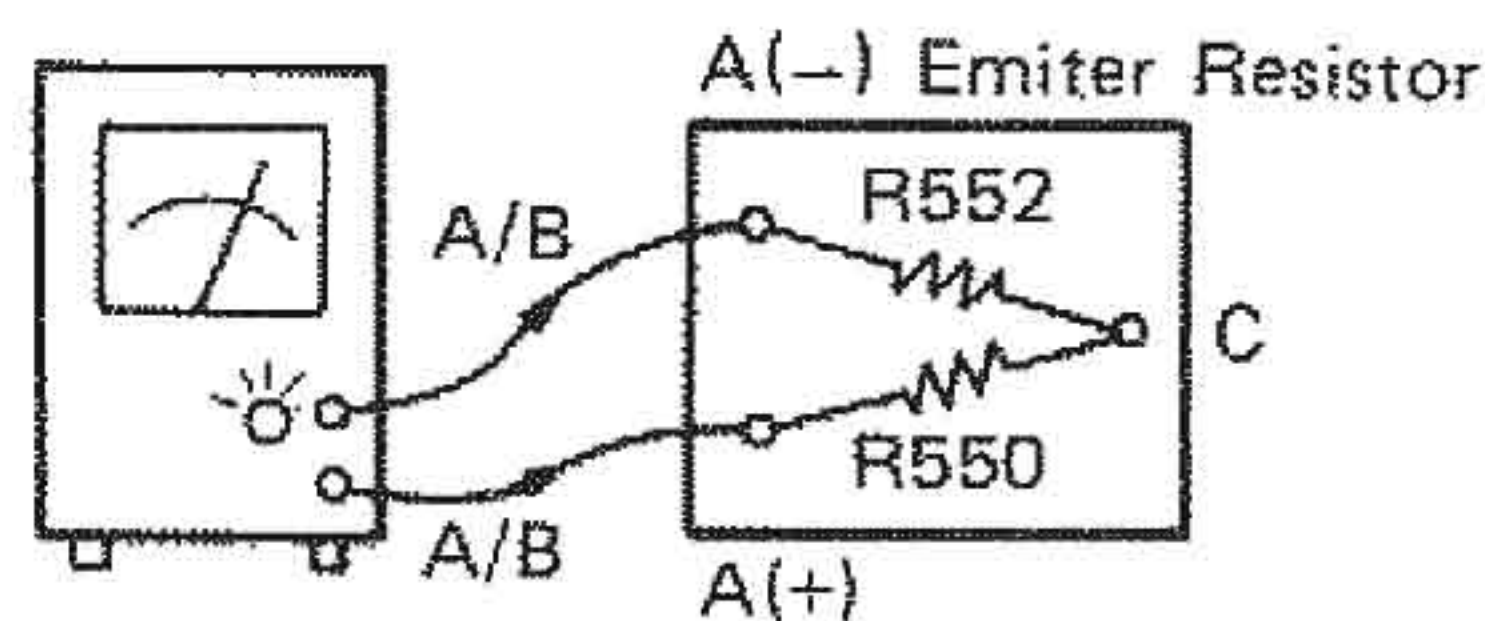

Figure 32.
1. Connect a tester to test Pins A(-) and A(+). Figure 32.
3. Connect a tester to test Pins B(-) and B(+). Figure 32.